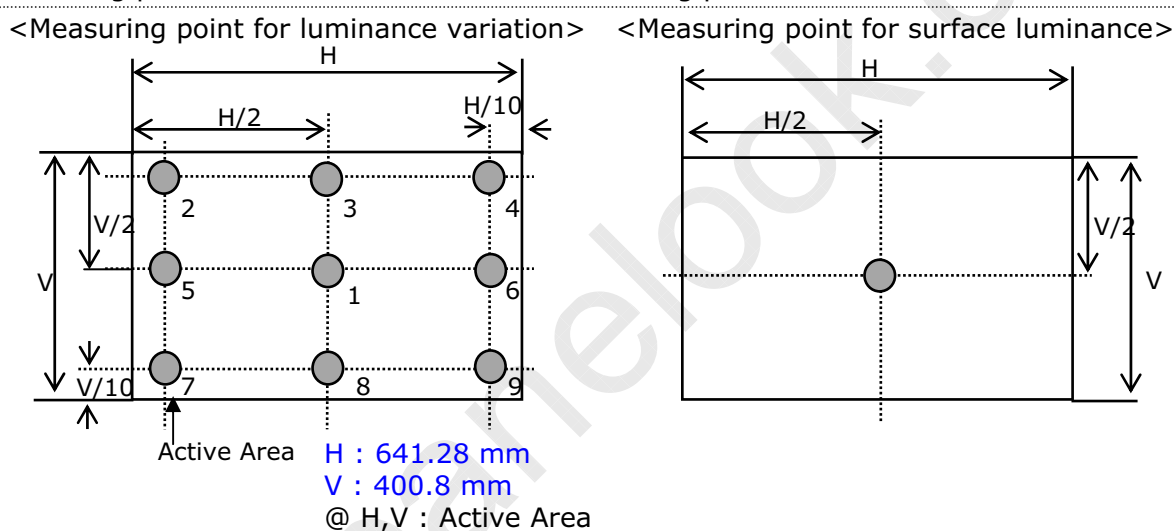

FIG. 3 Measure Point for Luminance
2. Surface luminance(L_{WH}) is luminance value at center 1 point(1) across the LCD surface 50cm from the surface with all pixels displaying white. For more information see FIG 3.
For more information see FIG 3.